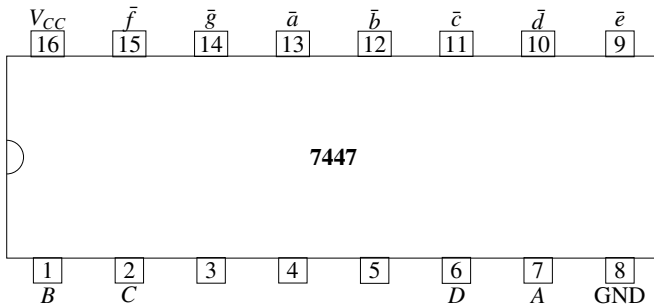

Fig. 1.9
**Problem 2.1.** Connect the A-D pins of the 7447 IC in Fig. 1.9 to the GPIO pins 0-3 of the Pi shown in Figs. 2.1.1 and 2.1.2.